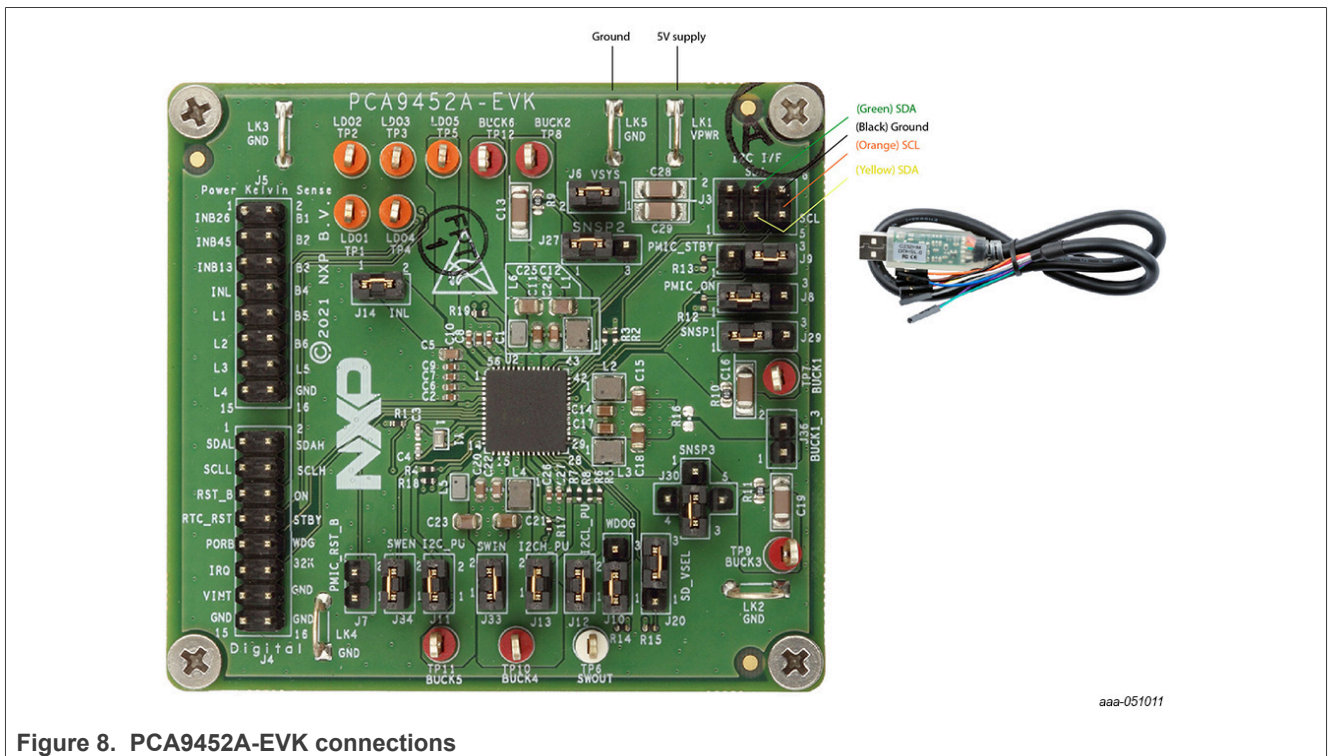

Figure 8. PCA9452A-EVK connections
Connect the wires of the FTDI cable on the following pins as shown in Figure 8, and make sure the power supply is turned off and the USB connector is disconnected during the wiring stage:
1. Connect both SDAs, SCL, GND, and the 3.3 V wires from the FTDI cable as mentioned in Figure 8 above.
As shown in Figure 8, connect the wires of the FTDI cable and power supply according to the information in Section 7.2.1.